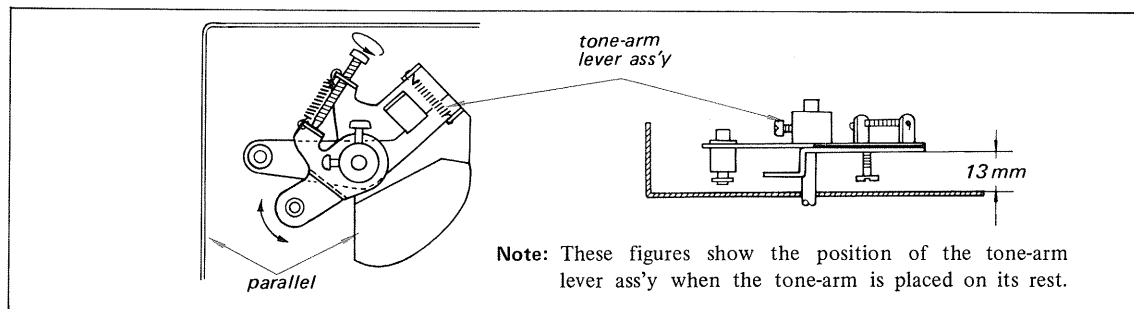

Fig. 2-14. Tone-arm lever ass'y installation
11. Refer to Fig. 2-14 for setting the proper tone-arm lever assembly height and position.